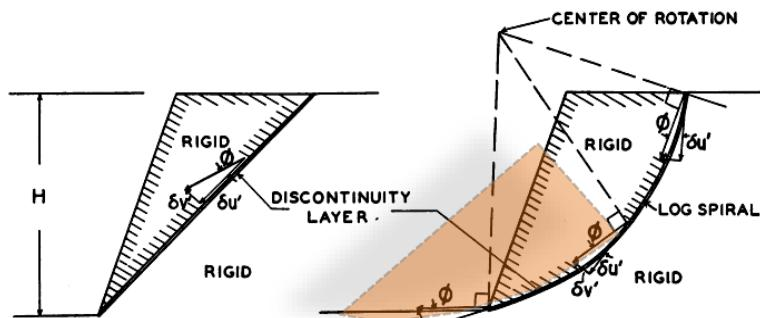

FIG. 3. Rigid body "slide" motions.
7. Simple discontinuous solutions. Any soil mass, in particular the slope shown in Fig. 3, may fail by rigid body "sliding" motion in two simple ways. As is well known, the surfaces of discontinuity, idealizations of discontinuity layers, are planes and circular cylinders for a Prandtl-Reuss material, $\alpha = 0$. When $\alpha \neq 0$, a plane discontinuity surface is still permissible but the circle is replaced by a logarithmic spiral which is at an